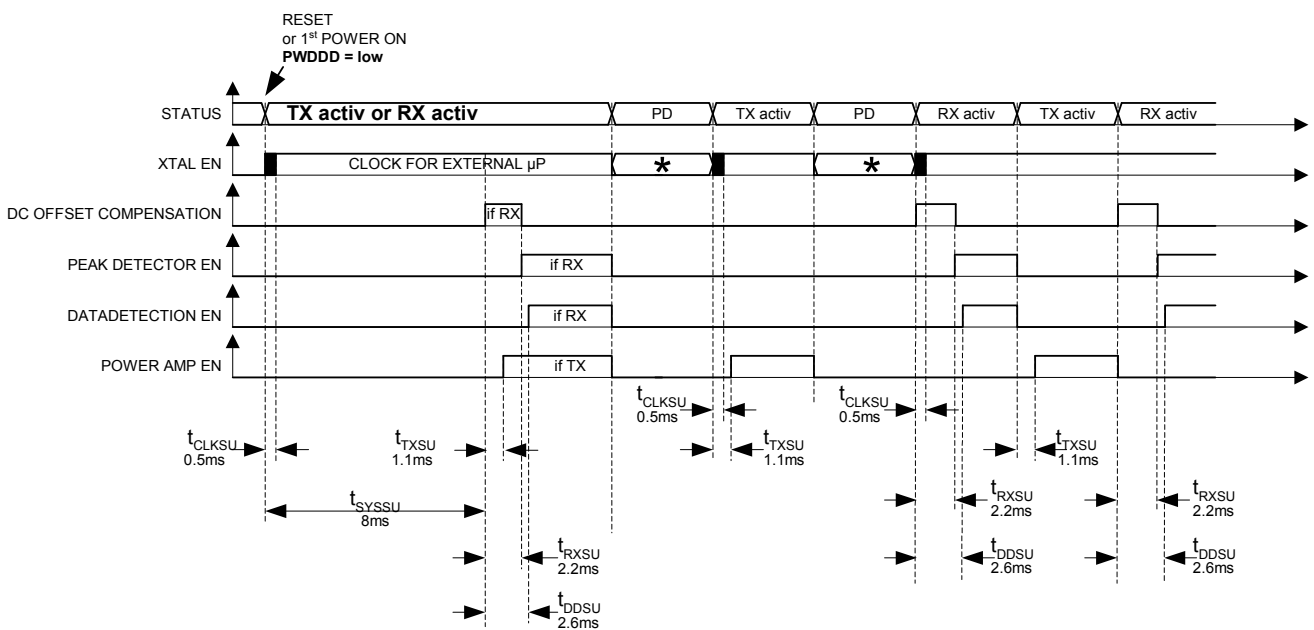
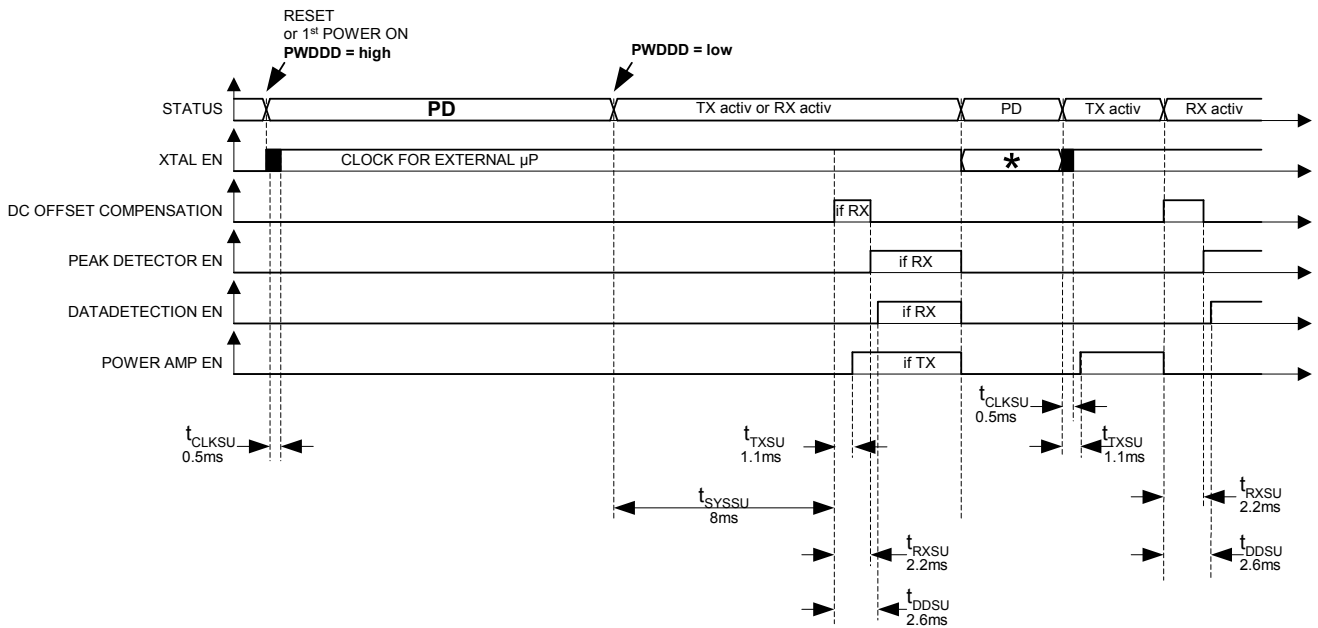

Figure 17 1st Start or Reset in Active Mode
Figure 18 1st Start or Reset in PD Mode
After the first POWER ON or RESET a 1 MHz clock is available at the clock output pin. This clock output can be used by an external μC to set the system into the desired state and outputs valid data after 500 μs (see Figure 17 and Figure 18, t_{CLKSU})
- PWDDD pin is LOW: Normal operation timing is performed after t_{SYSSU} (see Figure 17).
- PWDDD pin is HIGH (device in power down mode): A clock is offered at the clock output pin until the device is activated (PWDDD pin is pulled to LOW). After the first activation the time t_{SYSSU} is required until normal operation timing is performed (see Figure 18).
Note: Data are valid 500 μ s after the crystal oscillator is enabled (see Figure 17 and Figure 18, t_{CLKSU}).